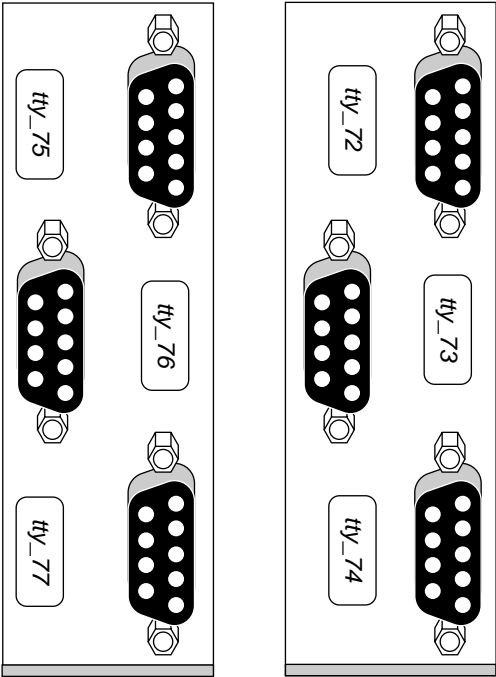

Figure 2-1 Layout of Serial Ports
Figure 2-1 shows the layout of the serial ports.
- Make sure the cable is connected to the correct serial port. Refer to Figure 2-1 for the default layout of serial ports and connectors.